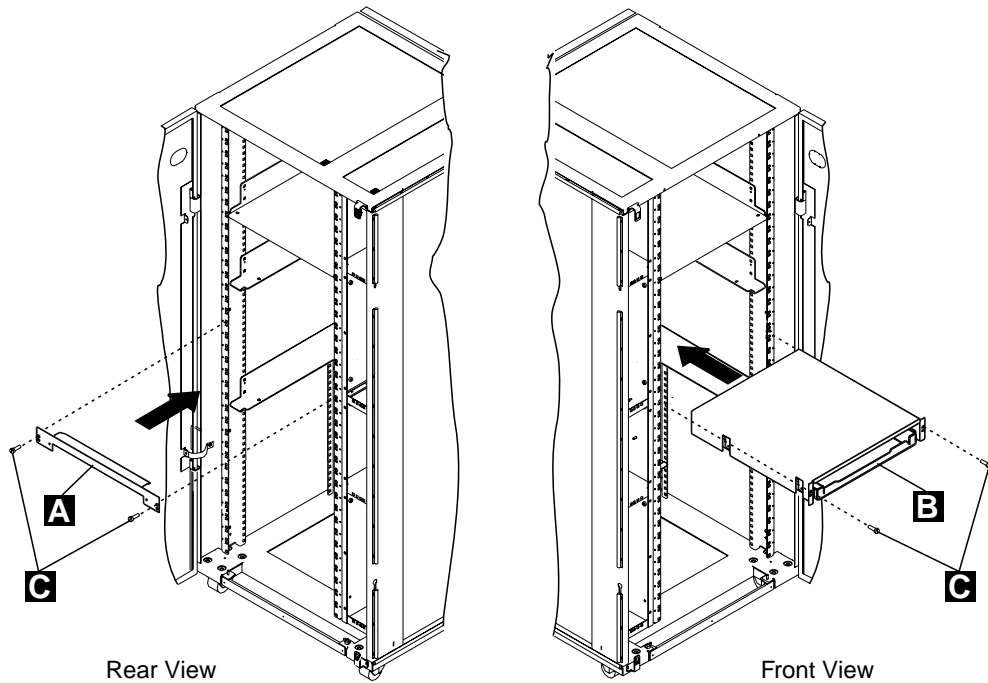

Figure 1-10. Installing the Service Drawer
11. ____ Refer to Figure 1-10, on the rear side of the controller expansion, install bracket **A** using two screws **C** (PN 1621230).